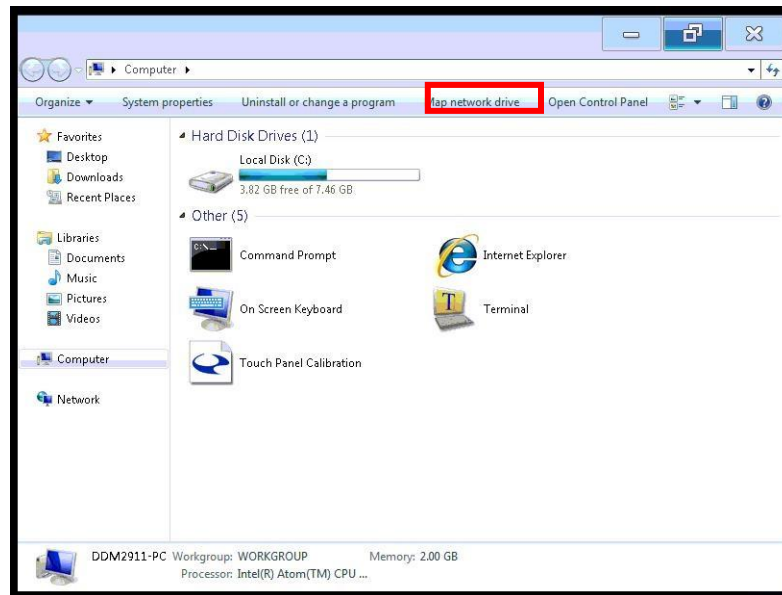

Figure 10.37 – Map Network Drive
- 5) A screen similar to Figure 10.37 below should be displayed. Select Map Network Drive at the top of the screen.